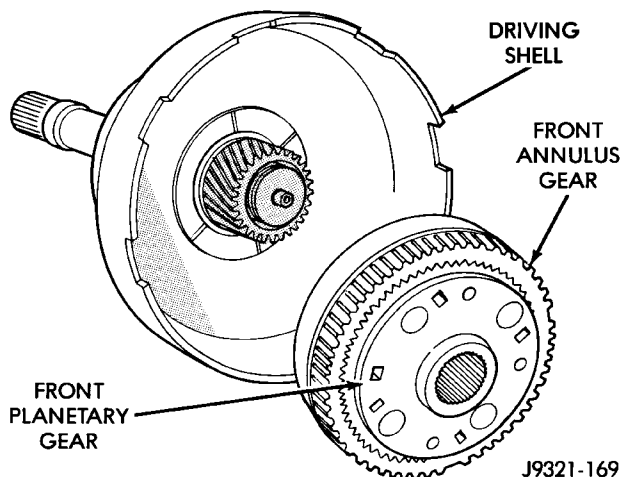

Fig. 174 Removing Front Planetary And Annulus Gears
(2) Remove front planetary gear and front annulus gear as assembly (Fig. 174).